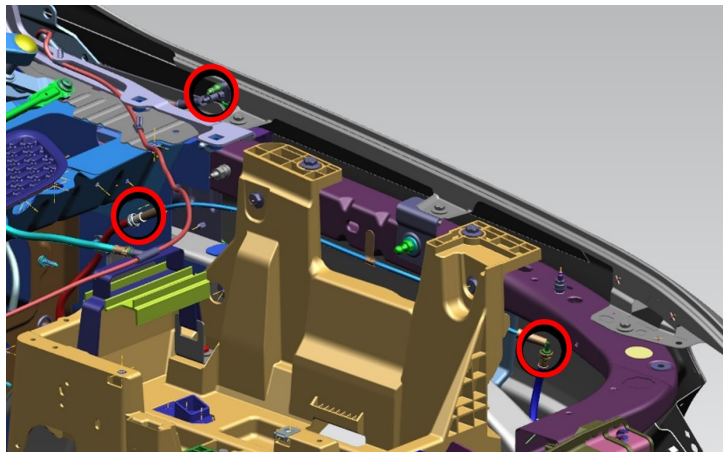

Fig. 1
1. **For Under Hood Leaks (Fig. 1)** . Open the hood.
2. Verify all three connections (Fig. 1) with a push-pull-push test and confirm all three connections are tight.